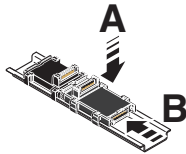

Figure 6-4 Connecting bus base modules to each other
- Place all other bus base modules required for the station on the DIN rail (Figure 6-4, A).
- Push each subsequent bus base module into the connection of the previous bus base module (Figure 6-4, B).